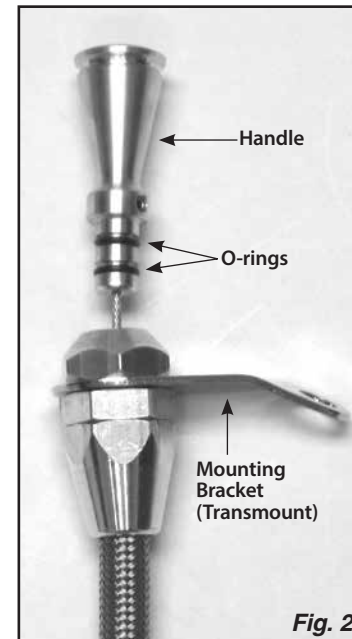

Fig. 2
Step 7: Make sure the dipstick tube assembly is not touching the exhaust at any point. Lightly lubricate the o-rings on the dipstick handle with clean transmission fluid. **Fig. 2**